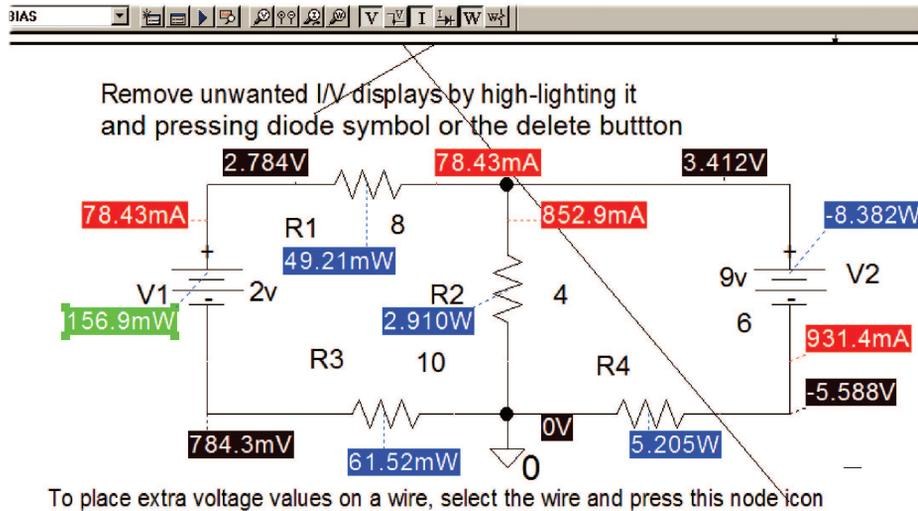

FIGURE 2.12: Displaying DC conditions
After simulation, select the **V/I** icons to display DC current and voltages shown in Fig. 2.12.
- (2) Calculate the voltage at the junction of the three resistors in Fig. 2.12 and compare to the simulation results.